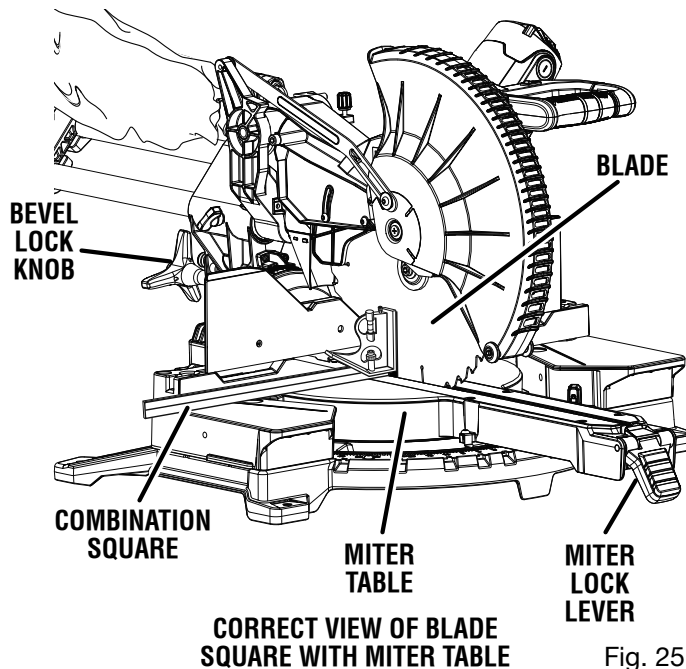

Fig. 25
See Figures 25 - 29.
- The edge of the square and the saw blade should be parallel as shown in figure 25.